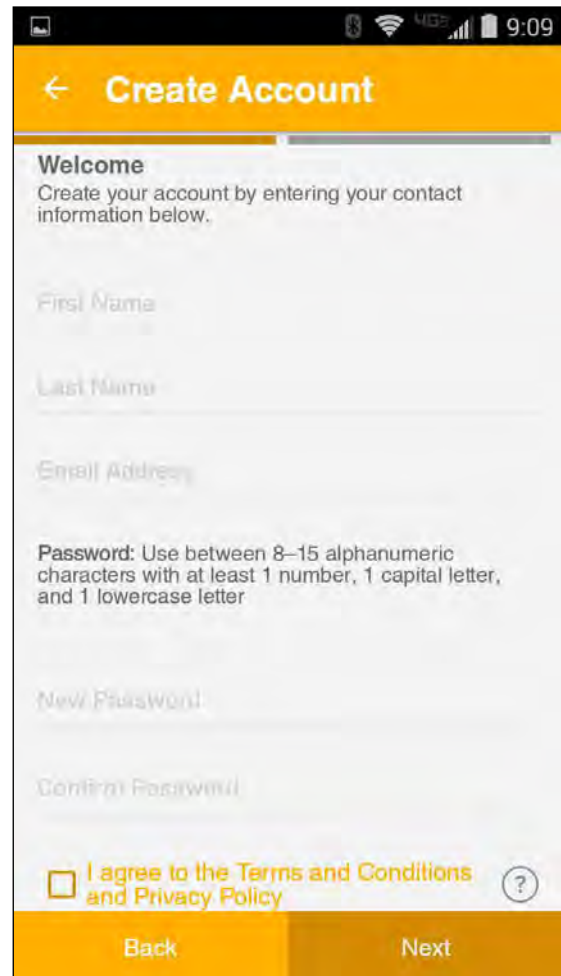

Figure 3
2. **Create Account (1):** The consumer must fill out the requested information: Name, Email, and Password to create and access their account. Click the check box to agree to the "Terms and Conditions and Privacy Policy." Select "Next" when finished. See Figure 3.